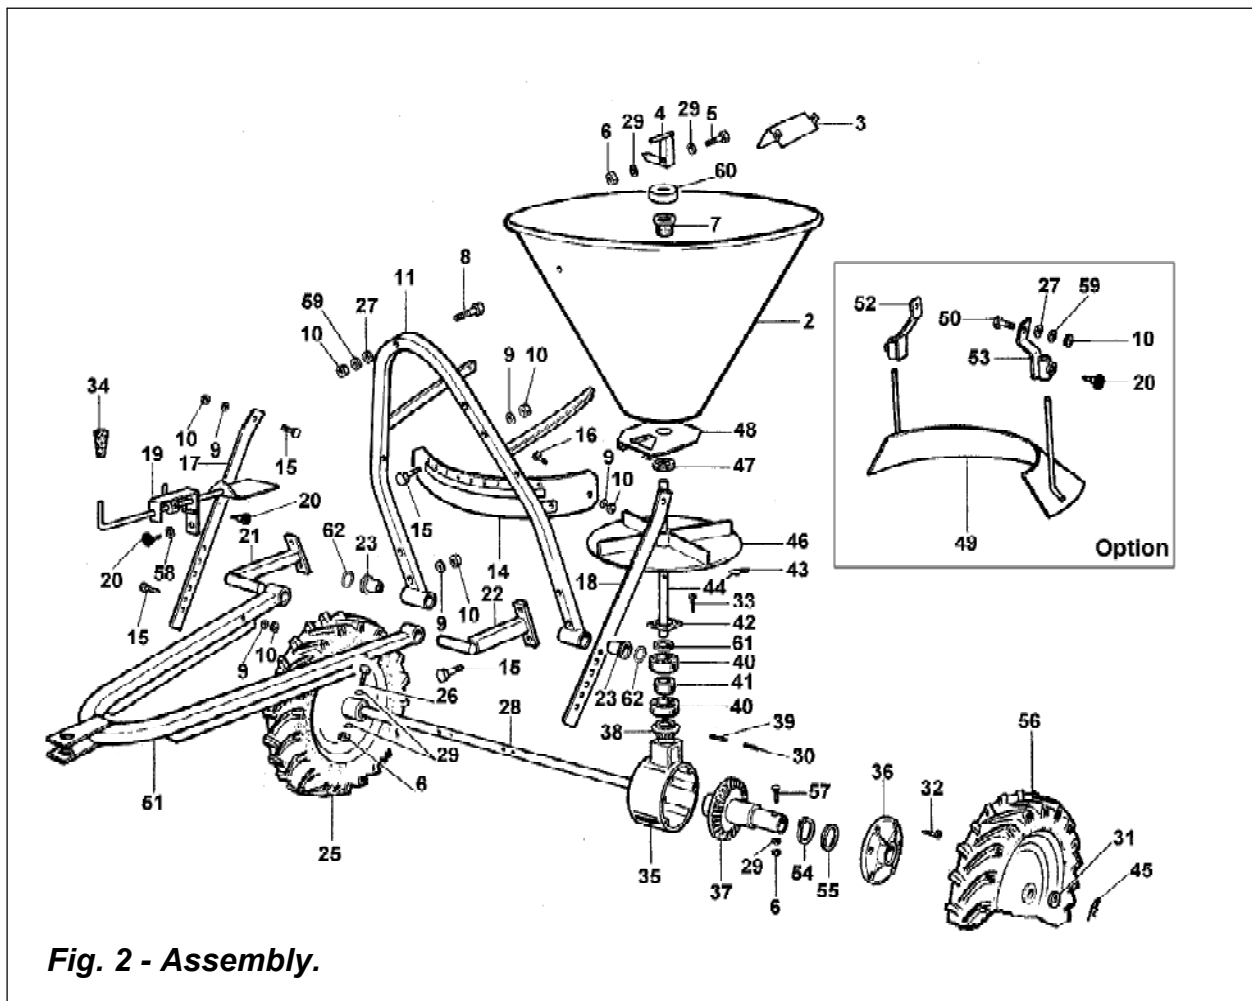

Fig. 2 - Assembly.
1. Locate the hopper (**see #2, fig. 2**), the mobile shutter (**#48, fig. 2**), the threaded bushing (**#7, fig. 2**) and the M30 nut (**#47, fig. 2**). Slide the threaded bushing (**#7, fig. 2**) through the bottom hole of the hopper (**#2, fig. 2**) and fasten the mobile shutter (**#48, fig. 2**) to it with the M30 nut (**#47, fig. 2**).
2. Fasten the guard (**#14, fig. 2**) onto the frame (**#11, fig. 2**) using the M8x16 bolts (**#16, fig. 2**), the Ø8 washers (**#9, fig. 2**) and M8 nuts (**#10, fig. 2**).
3. Slide the spreader disc (**#46, fig. 2**) and the hopper assembly over the outgoing shaft (**#44, fig. 2**) and use the M8x40 carriage bolt (**#8, fig. 2**), Ø8 large band washer (**#27, fig. 2**) and M8 nut (**#10, fig. 2**) to fasten the hopper to the frame (**#11, fig. 2**). Pin the spreader disc to the shaft with the cotter pin (**#43, fig. 2**).
4. Place stirrer (**#4, fig. 2**) and cover (**#60, fig. 2**) over the outgoing shaft (**#44, fig. 2**) and secure them using the M6x30 bolt (**#5, fig. 2**), the Ø6 washers (**#29, fig. 2**) and the M6 lock nut (**#6, fig. 2**).
5. Place the stirrer guard (**#3, fig. 2**) inside the hopper (**#2, fig. 2**) and fasten with the two M8x20 carriage bolts (**#50, fig. 2**), Ø8 large band washers (**#27, fig. 2**) and M8 nuts (**#10, fig. 2**) that connect the sides of the frame (**#11, fig. 2**) to the hopper (**#2, fig. 2**).
6. Slide the shutter lever (**#19, fig. 2**) into the slot of the mobile shutter (**#48, fig. 2**) and fasten to the guard (**#14, fig. 2**) with the adjustment knob (**#20, fig. 2**) and Ø8 washer (**#58, fig. 2**).
7. Assemble the wheels (**#25 & 56, fig. 2**) making sure that the side of the wheel hubs that has the hole is facing the inside of the spreader. Place the Ø28 shims (**#62, fig. 2**) on each side of the axle (**#28, fig. 2**) before inserting the wheels. Assemble the wheels (**#25 & 56, fig. 2**) on the axle (**#28, fig. 2**), followed by the Ø20 washers (**#31, fig. 2**) and secure them in place with the cotter pins (**#45, fig. 2**). On the right wheel (**#25, fig. 2**), insert the M6x45 bolt (**#26, fig. 2**) through the hole in the hub and axle, place the Ø6 washers (**#29, fig. 2**) on each side of the hub and secure it in place with the M6 lock nut (**#6, fig. 2**).
8. The towing hitch (**#51, fig. 2**) is attached to the frame with two hitch adjustment plates, one right (**#17, fig. 2**) and one left (**#18, fig. 2**). Attach the upper end of the hitch adjustment plate to the hole in the square tubing of the frame (**#11, fig. 2**) using the M8x40 bolts (**#15, fig. 2**). Use the M8x40 bolts (**#15, fig. 2**), the Ø8 washers (**#9, fig. 2**) and the M8 nuts (**#10, fig. 2**) to secure the lower end of the hitch adjustment plates (the one with the series of holes) to the towing hitch (**#51, fig. 2**). Select the hole which best fits the pulling units drawbar enabling the spreader to run parallel to the ground.
9. To attach hitch connection plates (#21 & #22, fig. 2), slide the round stock ends of these two plates through the tubes which are welded to the ends of the towing hitch (#51, fig. 2). Bolt the hitch connection plates (#21 & #22, fig. 2) to the outer end of the frame (#11, fig. 2) using M8x40 bolts (#15, fig. 2), Ø8 washers (#9, fig. 2) and M8 nuts (#10, fig. 2). Make sure that the two hitch connection plates (#22, fig. 2) are angled upwards and the stock ends are pointed inwards after assembly.